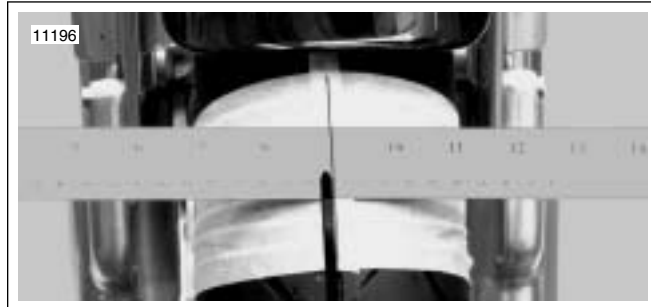

Figure 1-51. Fall-Away Measurement
3. See Figure 1-51. Place masking tape on front tire. Tape ruler over taped area on front tire and draw a line on the masking tape even with the ruler center.